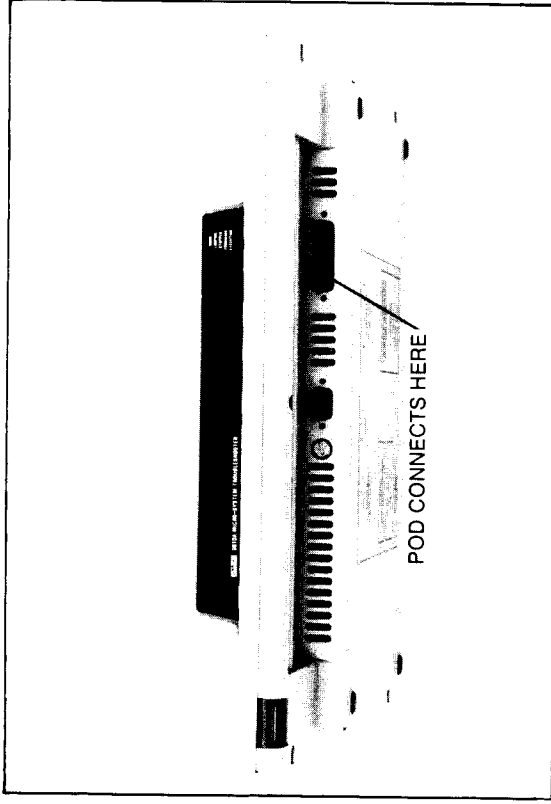
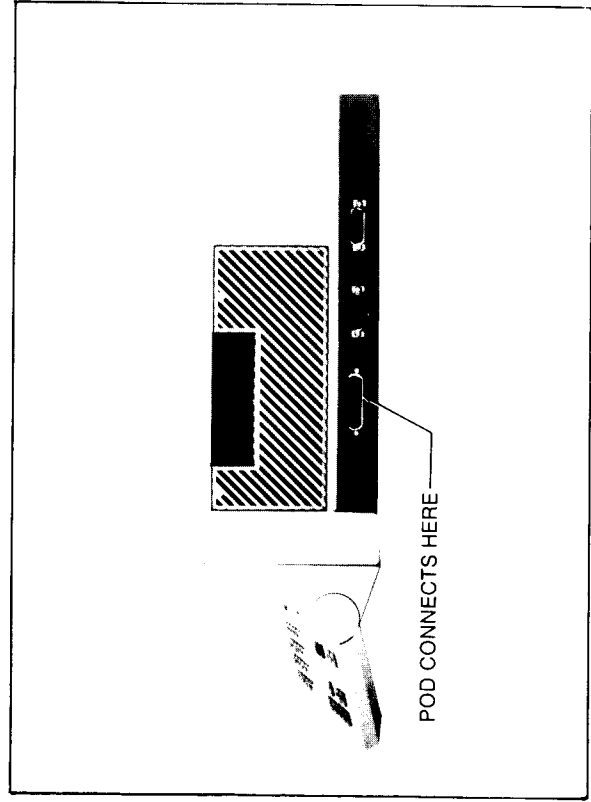

Figure 2-1. Connection of Interface Pod to 9000 Series
Figure 2-2. Connection of Interface Pod to 9100 Series
2. Using the round shielded cable, connect the pod to the mainframe as shown in Figure 2-1 (for 9000 Series) or Figure 2-2 (for 9100 Series). Secure the connector using the sliding collar.